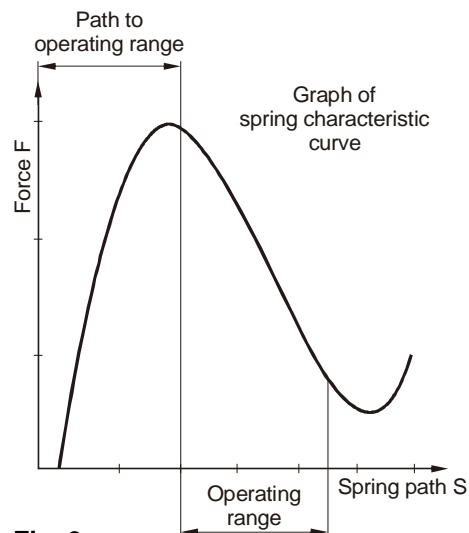

Fig. 9
The respective torque adjustment range is printed onto the Type tag (22). Torque adjustment is carried out by turning the adjusting nut (5). The installed cup springs (9) are operated in the negative range of the characteristic curve (see Fig. 9). This means that tightening the adjusting nut (5) causes the spring force to decrease, and loosening the adjusting nut (5) causes the spring force to increase.
It is possible to check the "**Spring operation in the operating range**" (Fig. 9) using the dimension "a".
Dimension "a" is the distance from the adjusting nut facing side (5) to the thrust washer facing side (3), see Fig. 9, Table 2.
Adjusting the adjusting nut (5) or distorting the cup springs (9) out of the cup spring characteristic curve (see Fig. 9) stops the clutch functioning.
Adjusting the adjusting nut (5) or distorting the cup springs (9) outside of the cup spring characteristic curve (see Fig. 9) stops the clutch functioning.